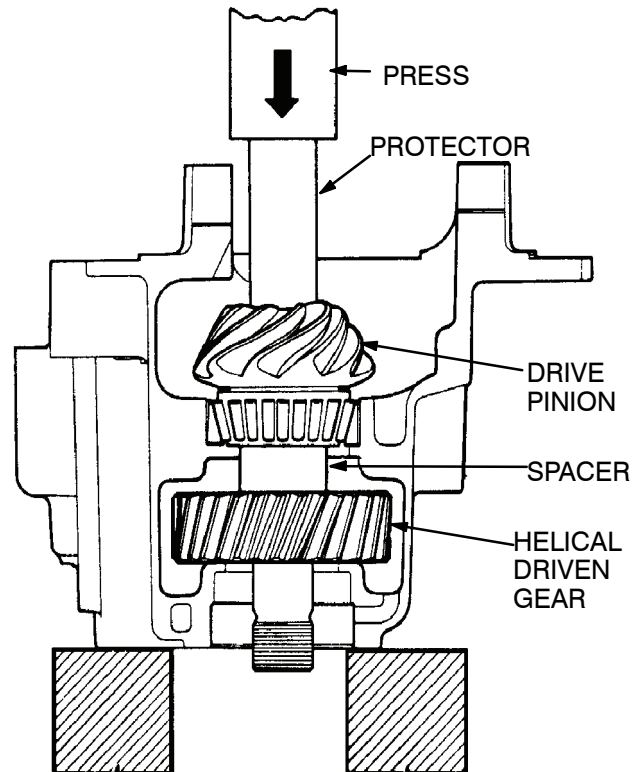

Figure 54.
the gear are toward the front of the carrier. Put the large spacer on top of the helical driven gear so that the spacer is toward the inner bearing cup. Figure 54.
- (4) Press pinion shaft through cone spacer and helical gear until inner bearing cone on pinion contacts the bearing cup in carrier. It should be noted at this time that helical gear is not completely seated on the pinion shaft. Refer to Figure 54.